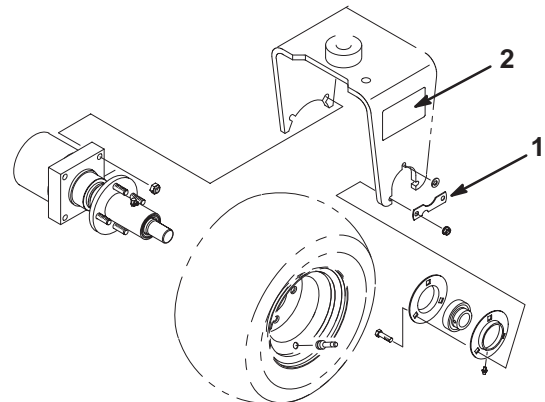

Figure 2
4. Insert flangettes and bearing onto end of motor shaft as shown in Figure 2.
6. Position motor hub, flangettes with bearing, and tire assembly into caster fork. Ensure that ports on motor face rearward (Fig. 2).
7. Loosely secure motor to right, inside of caster fork with 2 socket-head screws and 2 nuts (Fig. 2).
8. Loosely secure flangettes with bearing to left inside of caster fork with 3 screws, 3 locknuts, and a bearing tab. The grease fitting must be in the downward position on the flangette (Fig. 2) Tighten motor screws to 85 ft.-lbs (115 N·m) and flangette screws to 30 ft.-lbs (41 N·m).